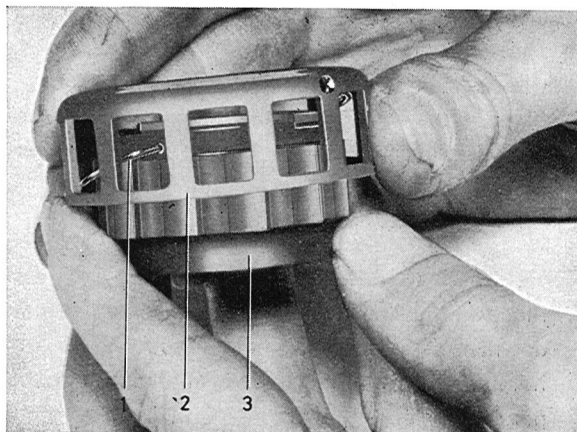

Fig. 4-60. One-way clutch assembly, I
5. Assemble the one-way clutch, spring and roller cage. see Fig. 4-60.